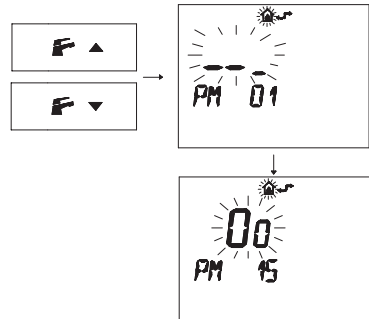

Fig. 7.13
- Press buttons **F**▲ or **F**▼ to display the "PM15" program that enables the external probe (Fig. 7.13).